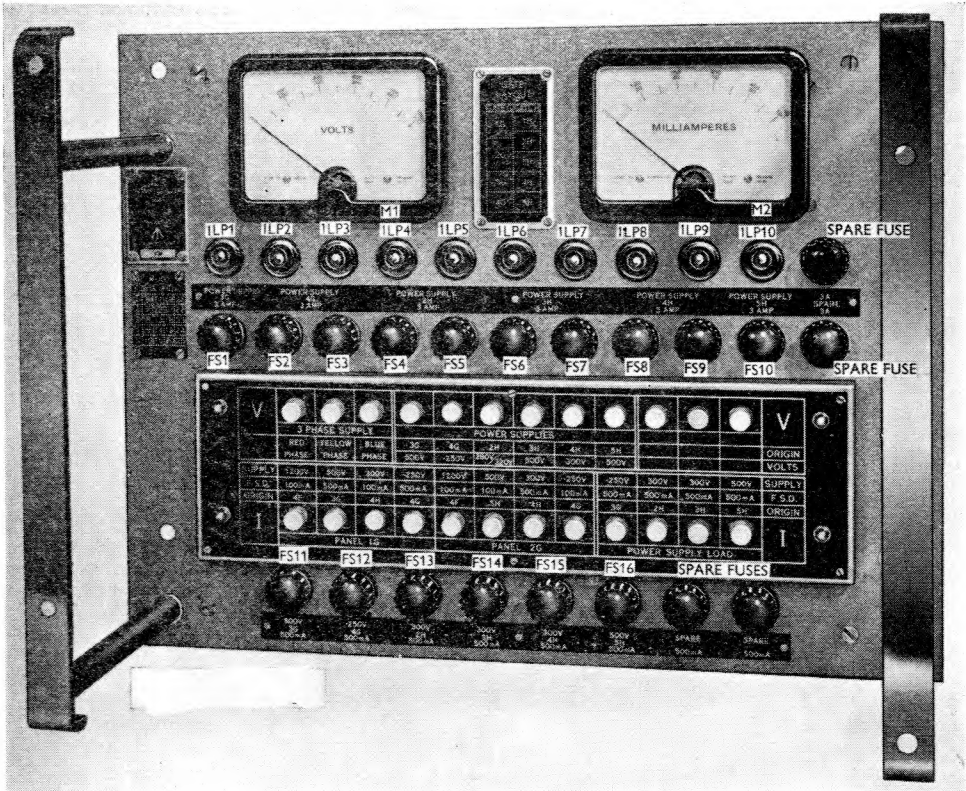

Fig. 7. Panel, test electrical (No. 4) M10: front view
18. This test panel (fig.7 and 8) is located on the R.H. cabinet gate at position 1H. The panel dimensions are: height 12 in, length 9 in, width 15 3/8 in, and the weight is 10 1/2 lb. Twenty-four push-buttons mounted on the front of the panel select the various functions.